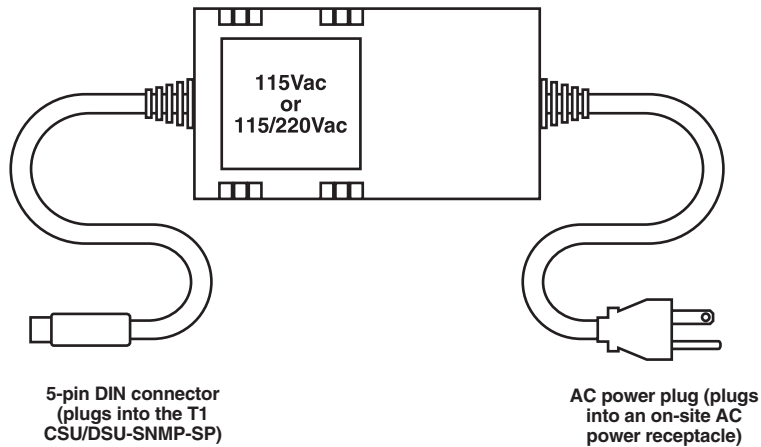

Figure 3-1. Cabling the external AC power supply.
- a. Plug the male end of the external power supply (shipped with your T1 CSU/DSU-SNMP-SP) into an on-site power receptacle or power strip. See Figure 3-1.